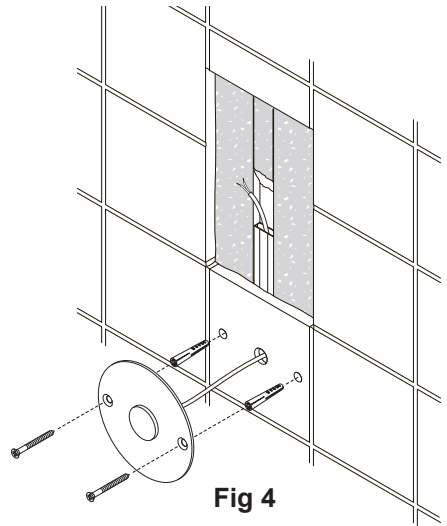
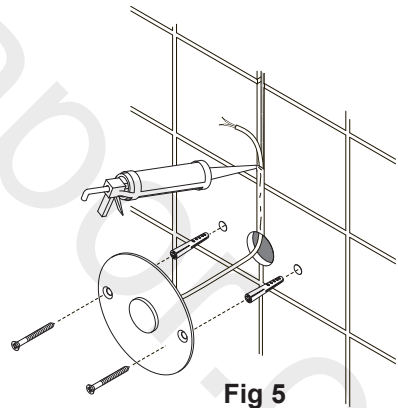
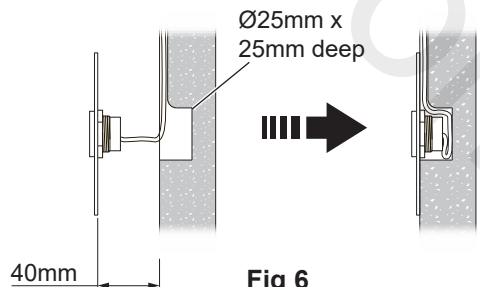

Fig 4
Fig 5
Fig 6
1. Cut a hole and channel in the wall to run the cable from the Sensor to the Sensor Box. Ideally the sensor should sit within a single tile to ensure a good seal. Make sure the channel is positioned correctly and large enough to prevent the cable having a sharp bend. Concealment of the cable in miniature trunking is recommended (**Fig 4**). If the sensor is to be fitted to an existing pretiled area with no duct space in which to run cables, a groove can be cut between tiles using a disc cutter. Set the cable in the groove and cover with silicone sealant (**Fig 5**). For maintenance purposes within pretiled areas, it is recommended to bury some cable slack in a hole behind the sensor (**Fig 6**). If the cable requires lengthening, three waterproof connectors are supplied to create an extension cable (**see Creating a Sensor Extension Cable**). **Caution!** Do not drill into buried pipes or cables.